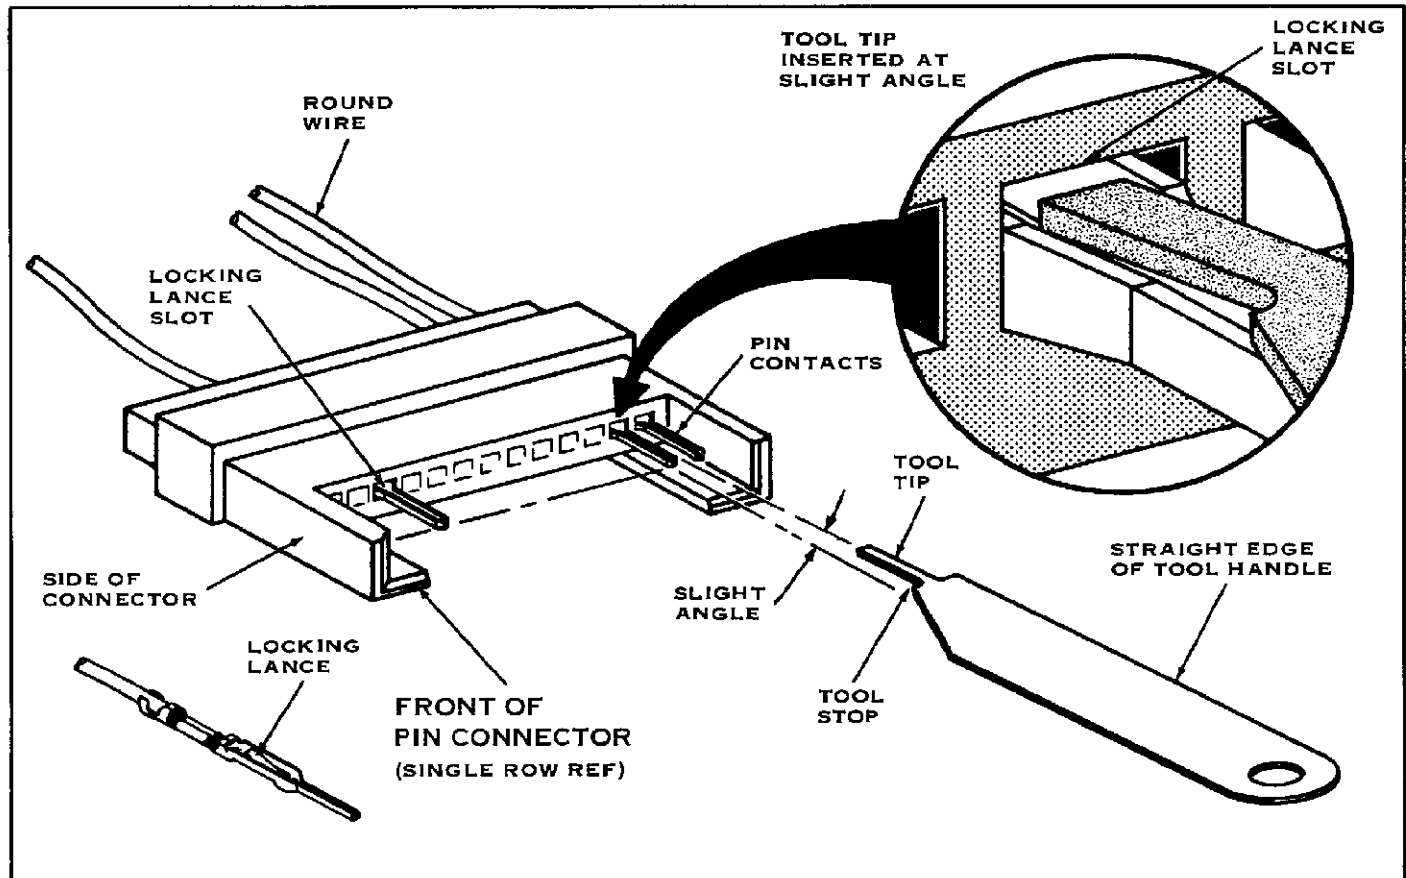
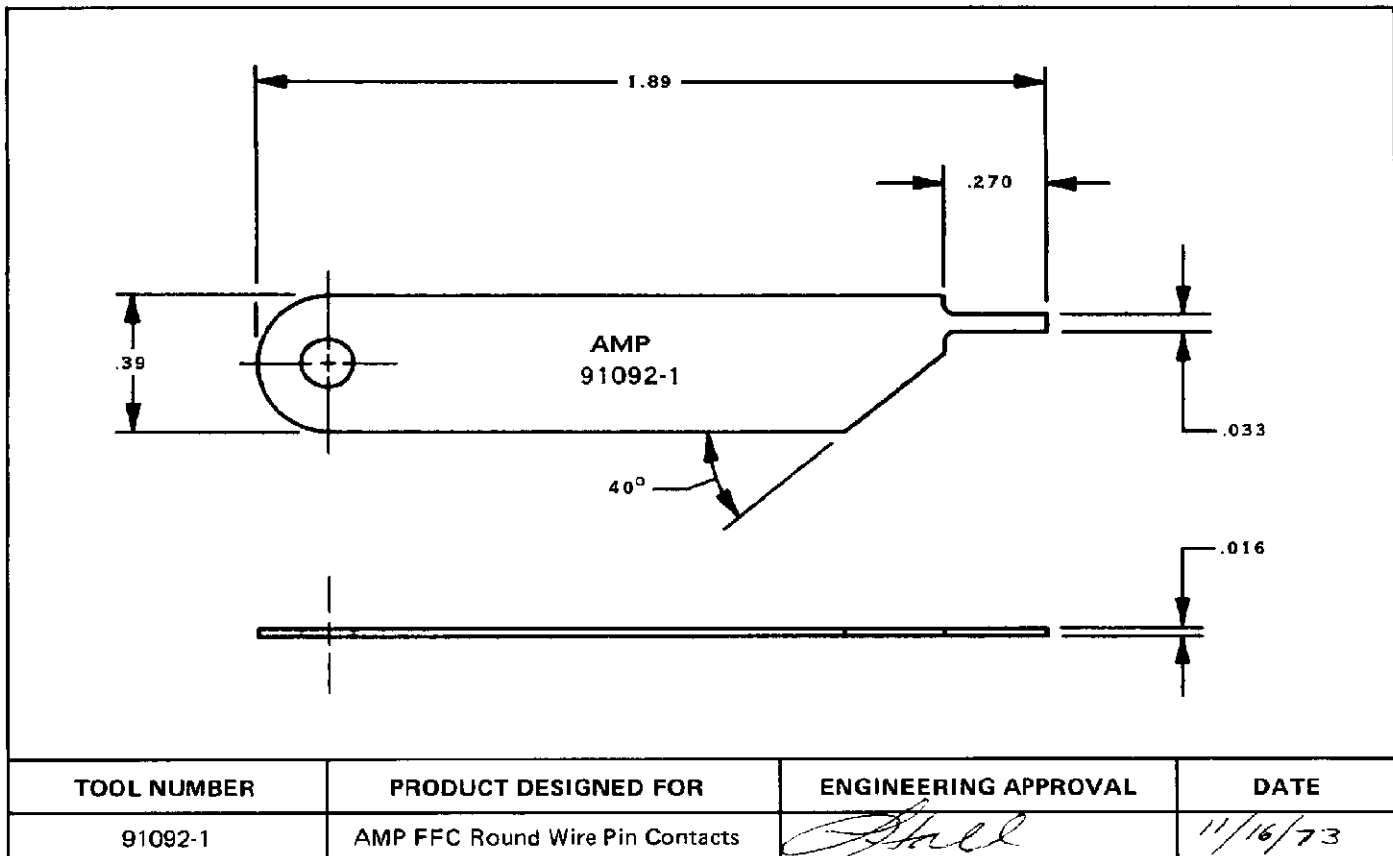

FIGURE 1
FIGURE 2
The tool tip is designed to enter the locking lance slot and depress the contact locking lance. The tool stop is designed to prevent contact damage from overinsertion of the tool. See Figure 1. The tool handle has the tool number marked on it. See Figure 2.
When extracting contacts near either end of the row, be sure the straight edge of the tool handle is toward the side of the connector, as shown in Figure 1.
1. Align the tool tip with the applicable locking lance slot — located between the open side of the contact and the cavity wall — as shown in Figure 1.
The extraction tool listed on this instruction sheet should be certified with the information provided in Figure 2. We recommend that you inspect the tool immediately upon arrival in your factory, and at regularly scheduled intervals, to assure that the tool has not been damaged during handling.